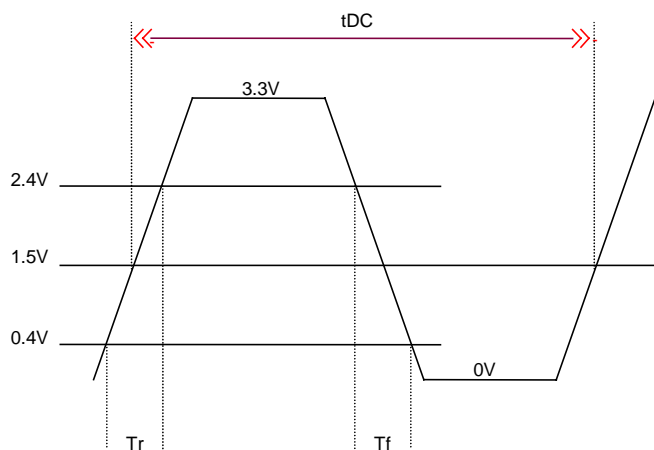
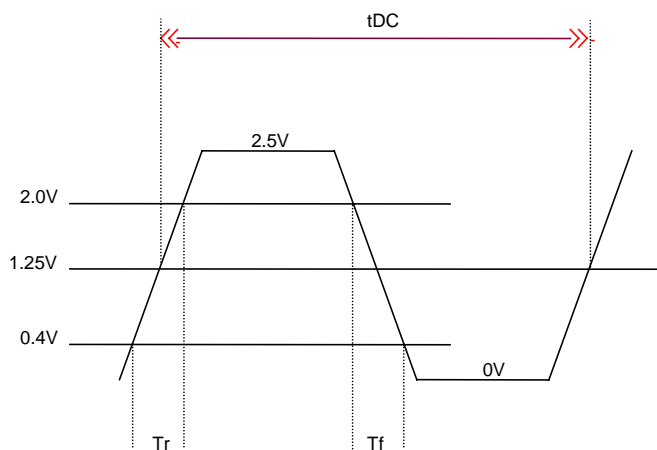

Fig.7A
Fig.7B
**Note 7:** Probes are placed on the pins, and measurements are acquired between 0.4V and 2.4V for 3.3V signals and between 0.4V and 2.0V for 2.5V signals (see Fig.7A and Fig.7B)
**Note 8:** Probes are placed on the pins, and measurements are acquired at 1.5V for 3.3V signals and at 1.25V for 2.5V signals. (see Figs.7A & 7B)
**Note 10:** Probes are placed on the pins, and measurements are acquired at 2.4V for 3.3V signals and at 2.0V for 2.5V signals, (see Figs. 7A & 7B)